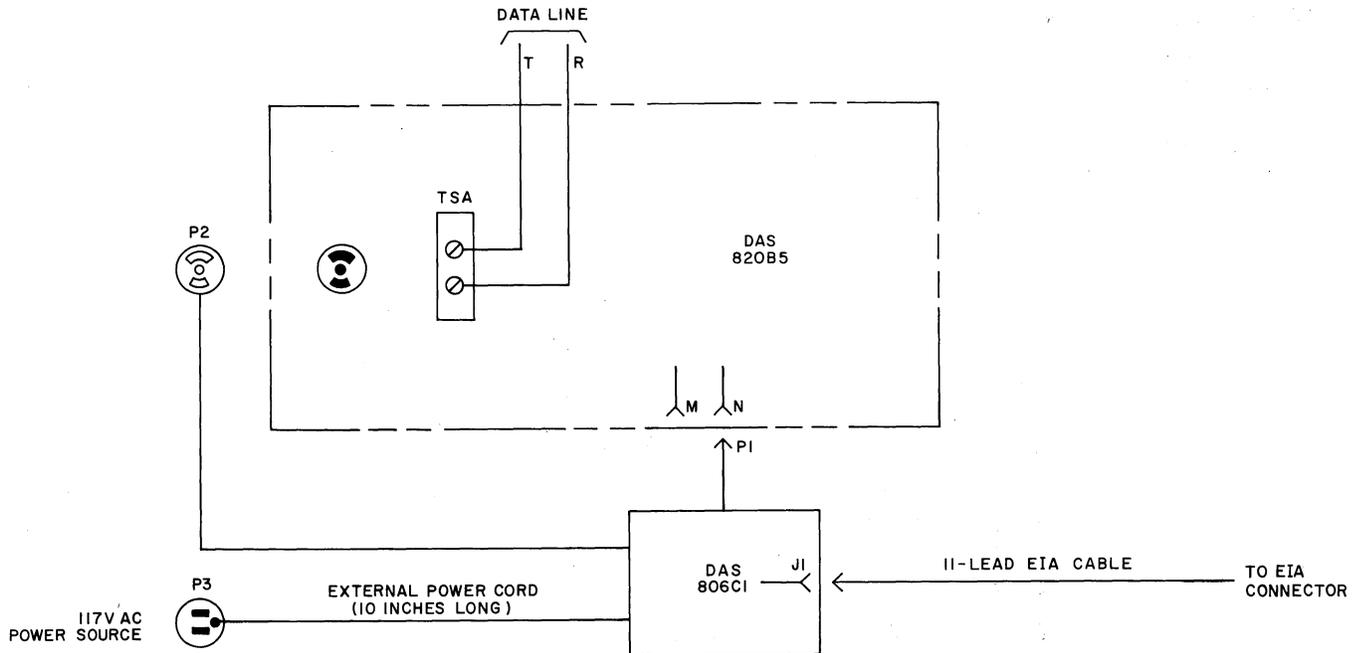

Fig. 10—Interconnections for Data Station Unit(s) Used With Customer Provided Terminal
3.01 The interconnections of a data station unit used with customer provided terminal are shown in Fig. 10.